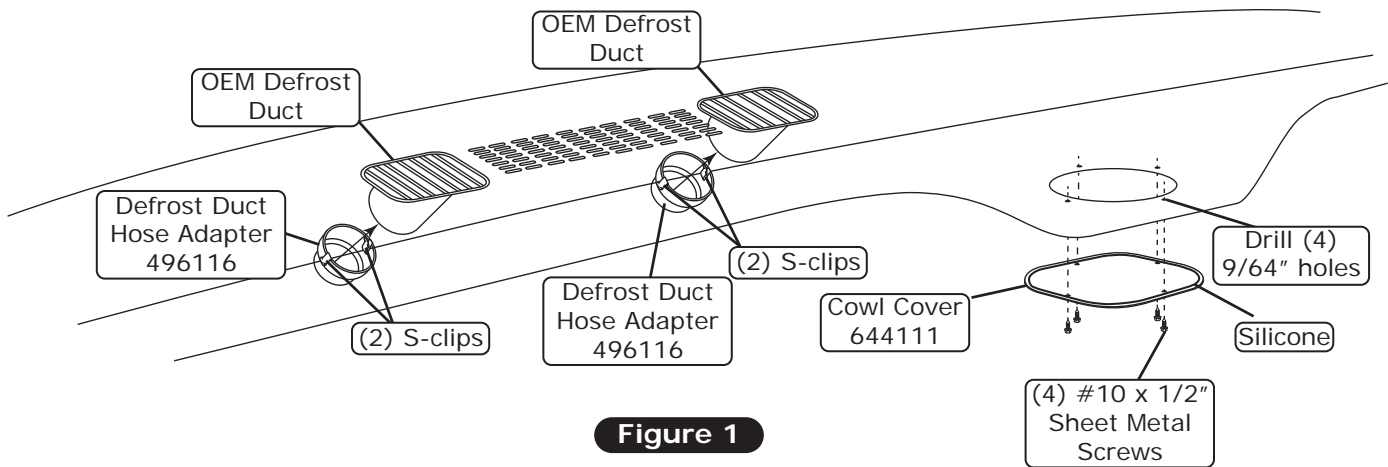

Figure 1
6. Secure cowl cover to fresh air hole using (4) #10 x 1/2" sheet metal screws as shown in Figure 1, below